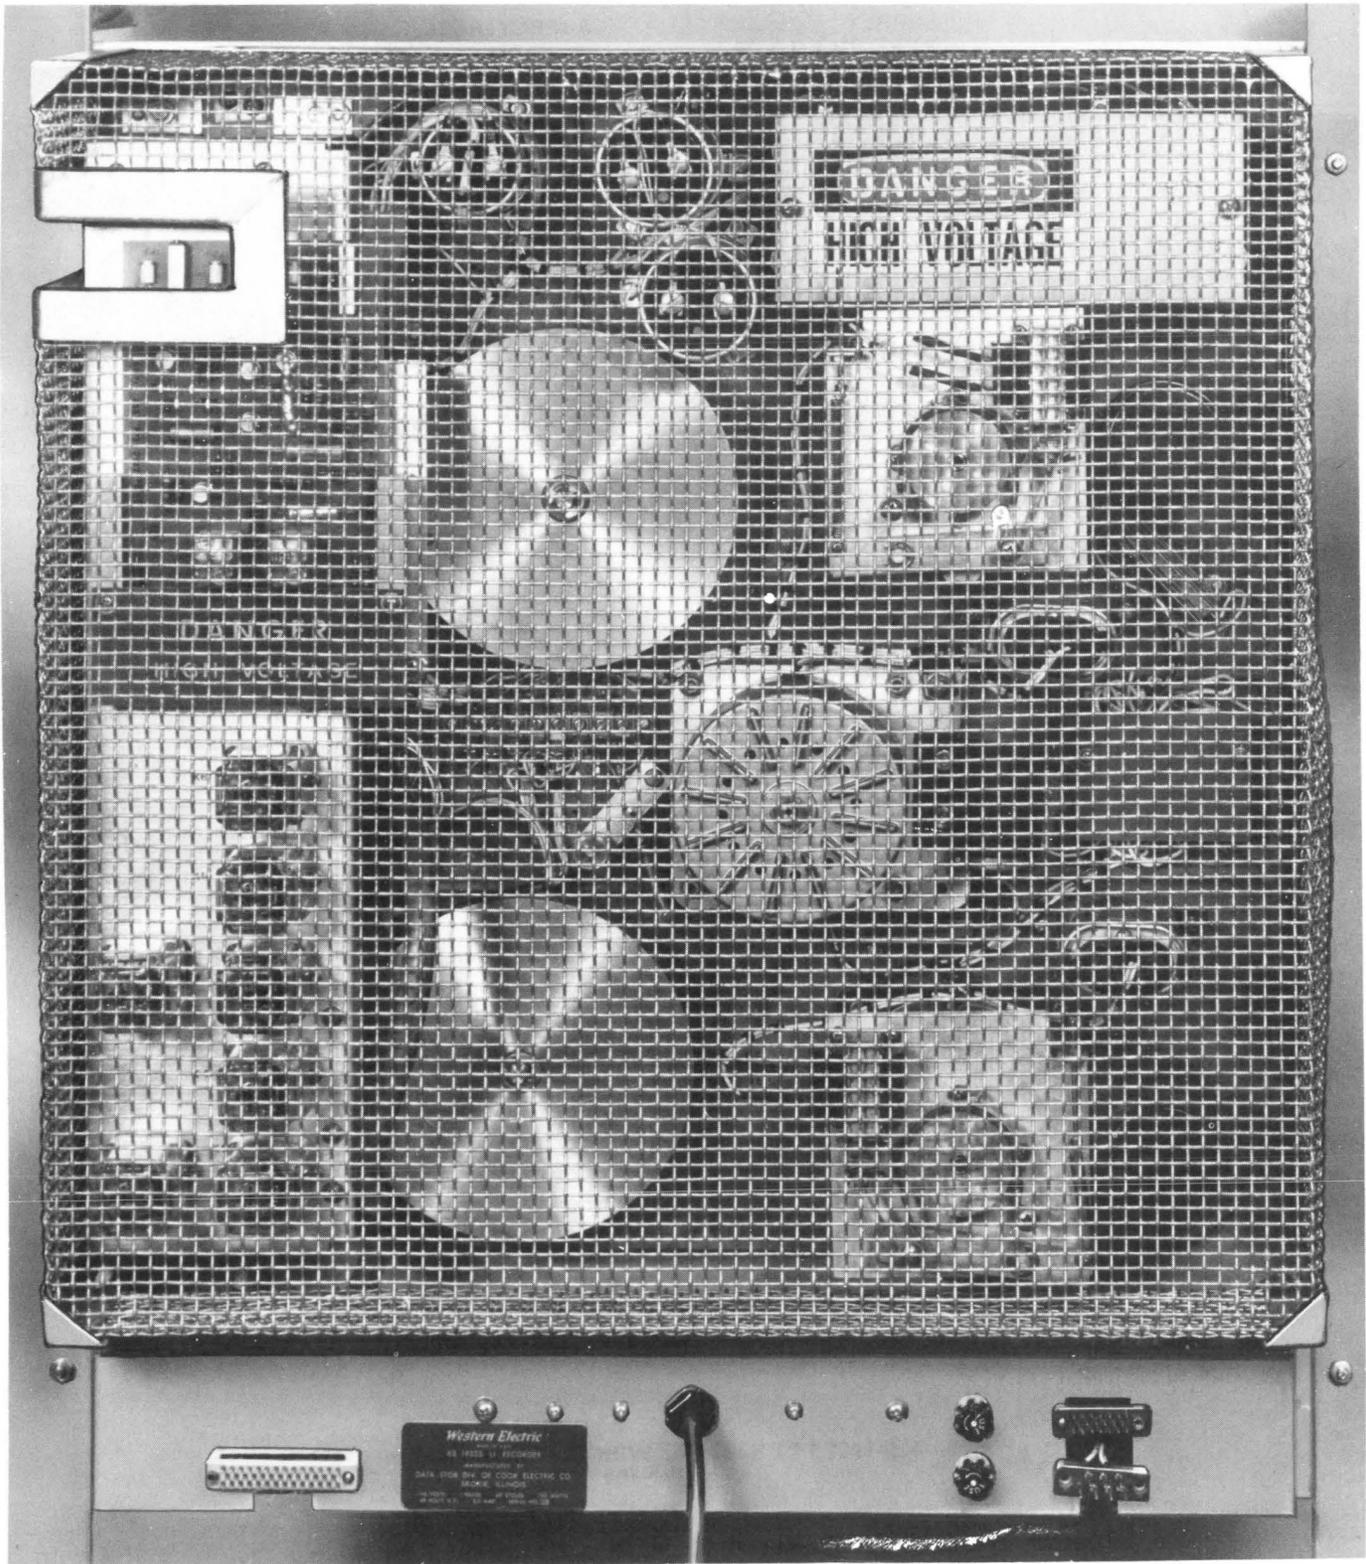
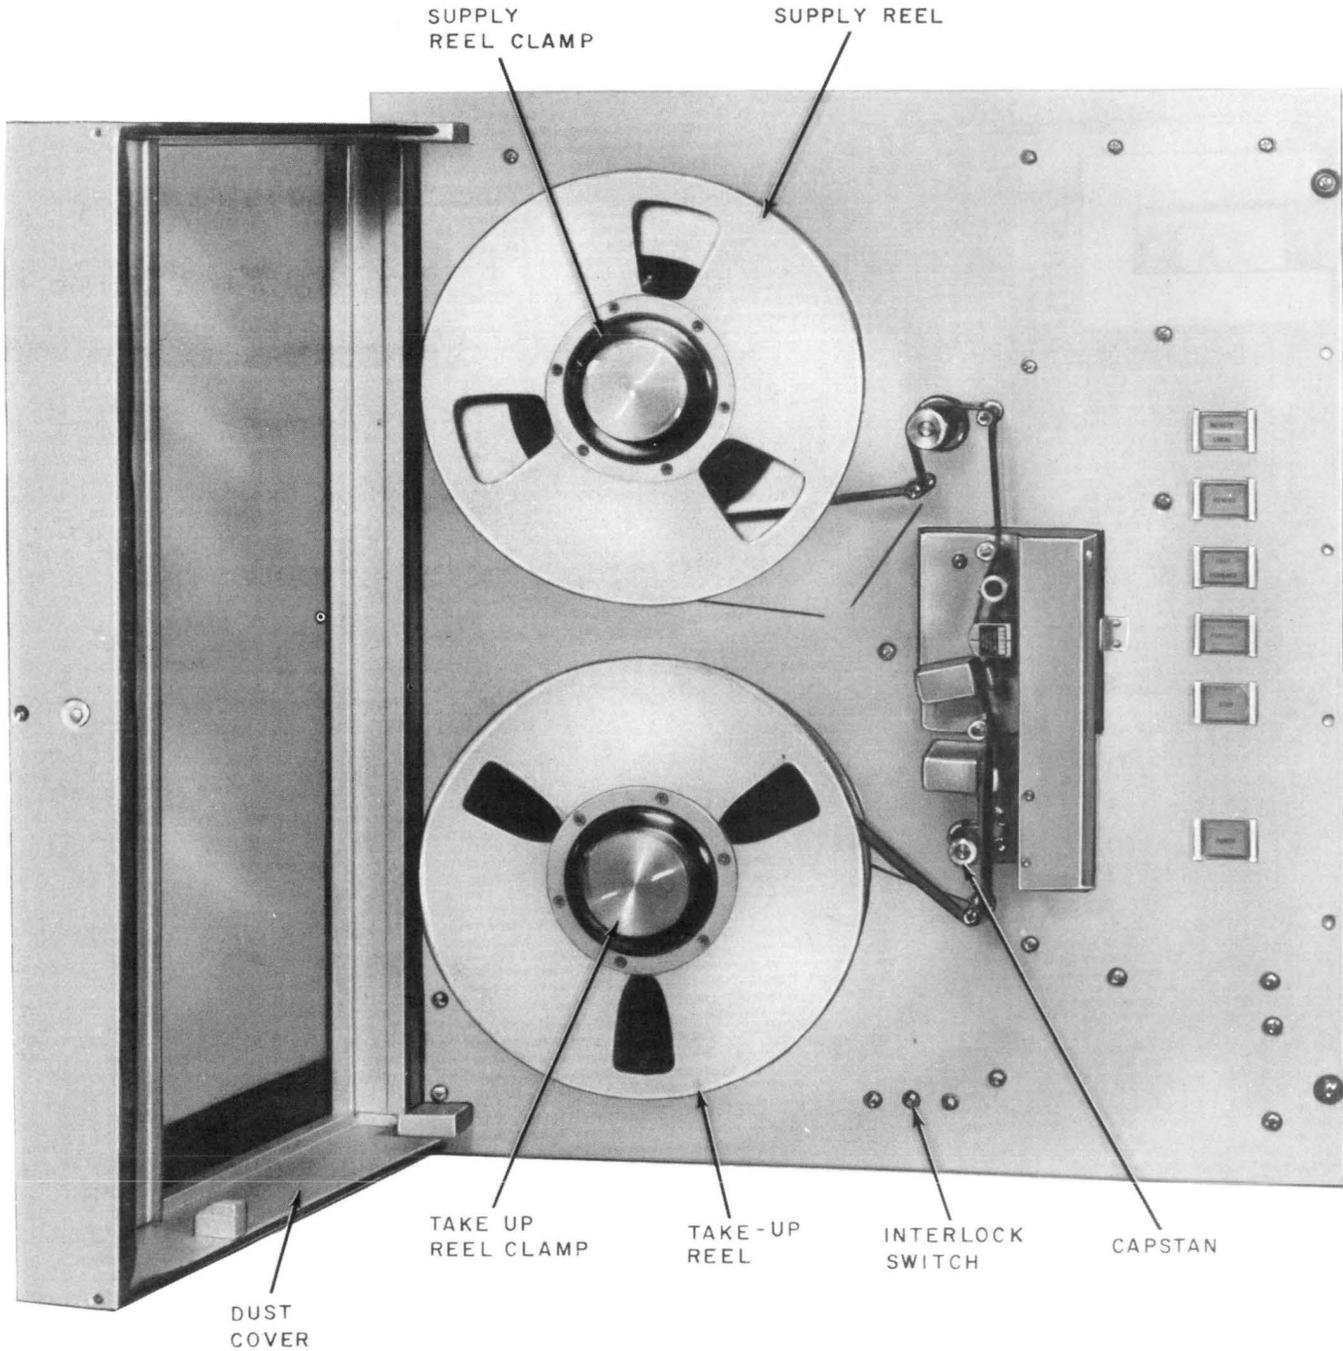

Fig. 2—KS-19325 L1 Recorder—Rear View
Fig. 3—KS-19325 L1 Recorder With Dust Cover Open
2.06 A hinged dust cover with a large transparent area is provided for the front of the recorder and opens to the left to a 90-degree position but does not extend beyond the 23 inch width of the rack. A nonhinged, easily removable, protective rear cover (Fig. 2) is also provided. When the front dust cover is closed, a safety interlock switch (Fig. 3) is actuated. The purpose of the switch is to remove operating power from the recorder when the dust cover is opened. A manual override feature is provided for use when it is necessary to operate the recorder with the dust cover open.
(a) ***Reel-to-Reel Drive:*** The reel-to-reel drive is a fast, unregulated tape drive which is accomplished by electrically unbalancing the torque of the two reel motors. Tape is moved fast forward by reducing the torque of the supply reel (Fig. 3) and increasing the torque of the take-up reel. The take-up reel rotates in the direction of the applied torque and winds tape. The supply reel is rotated counter to the applied torque as tape is pulled from it maintaining tape tension. Rewind is similarly accomplished by applying full torque to the supply reel motor and reduced torque to the take-up reel motor.
(b) **Metered Capstan Drive:** The metered capstan drive results in a regulated tape speed of 1 1/4 inches per second. In this mode of operation, the tape is held against a high-friction rotating capstan (Fig. 3) by a solenoid activated pressure roller. The capstan, which is driven
(d) **Forward:** With the recorder conditioned for LOCAL, actuation of the FORWARD pushbutton (S4) completes the circuit to a self-holding solenoid (L4) and the switch remains energized. Relay K1 is actuated through one set of contacts of the forward pushbutton (S4). Actuation of any other motion control pushbutton opens the circuit to this solenoid to terminate the forward condition. If the recorder is conditioned for remote operation, external closure of pins F and H of interface connector J3 provides a closed circuit for relay K1 and it energizes. The reel brake solenoids and pressure roller solenoid actuate through contacts of K1. Tape is held against the high-friction rotating capstan (Fig. 3) and moves at the tangential velocity of the capstan. The lower (take-up) reel rotates to wind the tape as it is metered out by the capstan, and the upper reel is rotated counter to the applied torque providing the tape tension required.
- (1) After insuring the power is off, open the dust cover (Fig. 3).